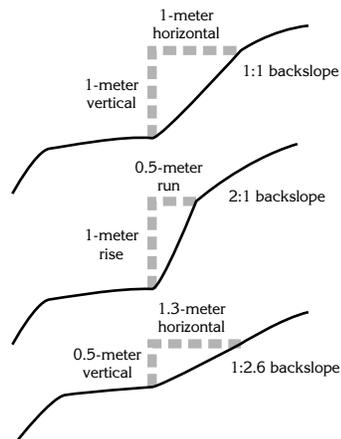

Figure 13—Slopes are noted in metric as a ratio of vertical to horizontal, or “rise” to “run.”
While often described as a percent, slopes are also described as a ratio of vertical to horizontal, or “rise” to “run.” The protocol for metric (SI) notation continues this tradition, with the additional change of eliminating fractions from the notation. For slopes flatter than 1:1, express the slope as a ratio of one unit vertical to the number of horizontal units. For slopes steeper than 1:1, express the slope as the ratio of the number of vertical units to one unit horizontal. Figure 13 shows examples.